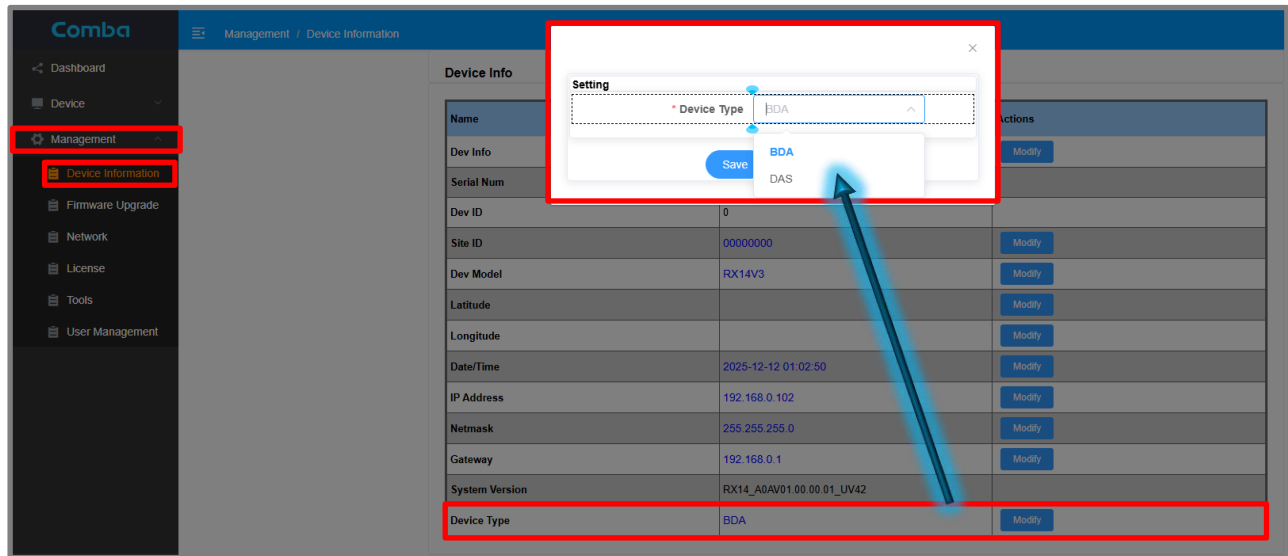

Figure 98: V3 BDA/MU Changing Device Operating Mode/Type (BDA or DAS)
- To change the Device Type, navigate to <Management – Device Information – Device Type> and click <Modify>. After making the change, you will be logged out of the web GUI, and the new selected mode will be displayed after re-login. Note, upgrading the firmware will NOT change this setting. See Figure 98.